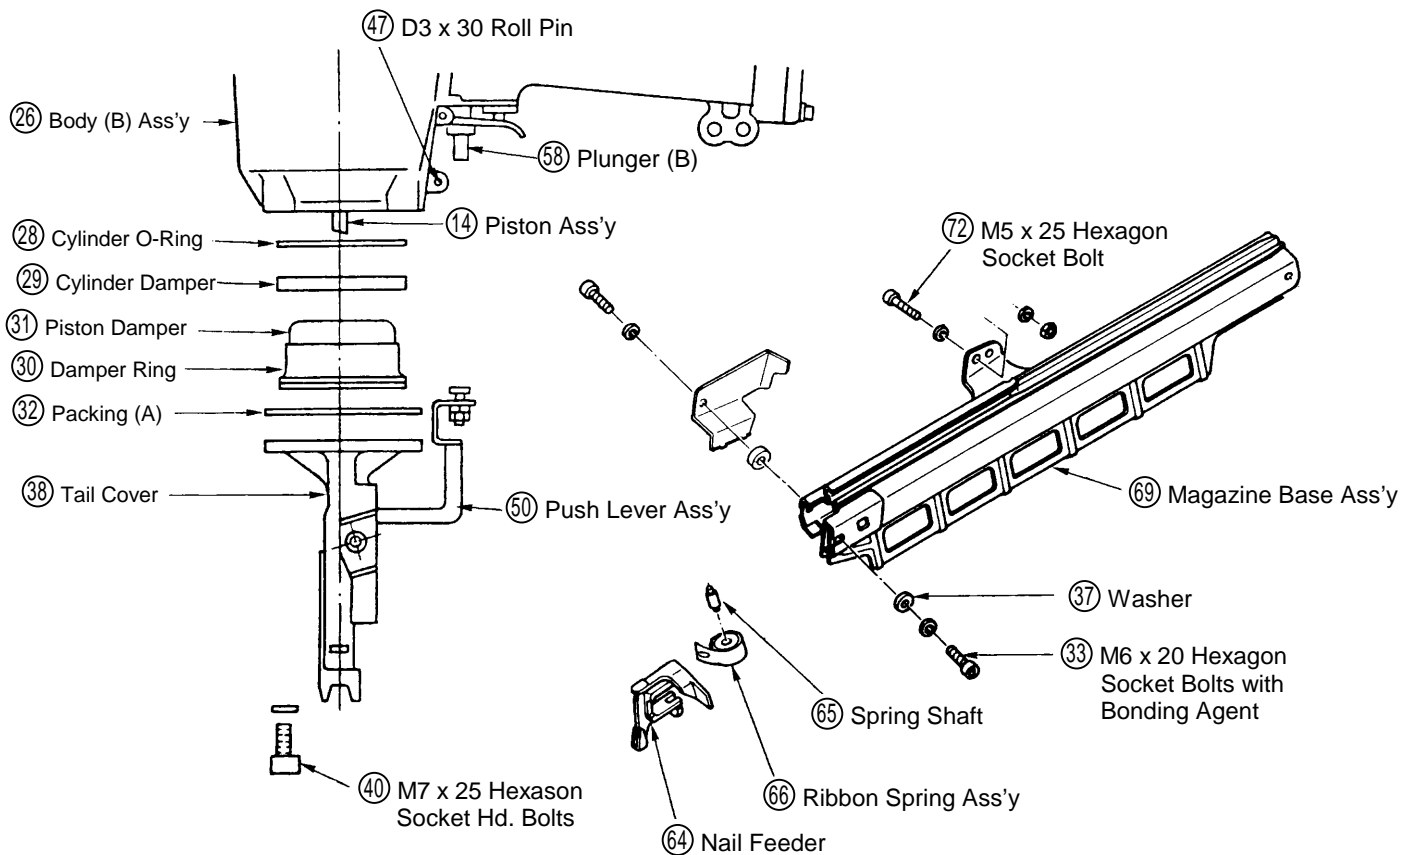
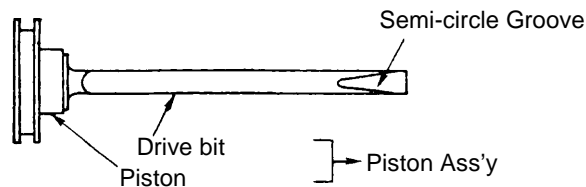

Fig. 7 Disassembly and Reassembly of the Piston Damper, Packing (A), etc.
Fig. 8 Semi-circle groove of piston ass'y
- Ensure that the Piston Ass'y (14) is positioned so its semicircular groove faces toward the Magazine side (see Fig. 8 below).
- Plunger (B) (58) may drop out during disassembly. Ensure it is properly assembled.
- Assemble the Body (B) Ass'y (26), Tail Cover (38), and Magazine Ass'y (81) in the following manner:
- With the Push Lever Ass'y (50) properly mounted on the Tail Cover (38) as illustrated in Fig. 7, assemble the Tail Cover (38) to the Body (B) Ass'y (26) with the four M8 x 25 Hexagon Socket Hd. Bolts (40), and tighten them to rated torque (see para. 1-4).
- Ensure that the Piston Ass'y ⑭ is positioned so its semicircular groove faces toward the Magazine (see Fig. 8 above).